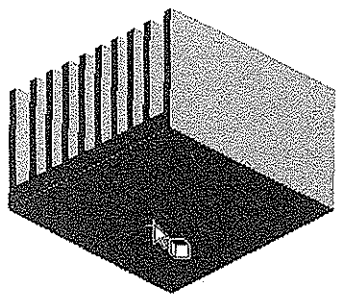

Figure 11-54 Selecting the bottom face of the Heat Sink to apply Heat Flow
9. Next, select the bottom flat face of the Heat Sink in the **Graphics** screen, as shown in Figure 11-54.